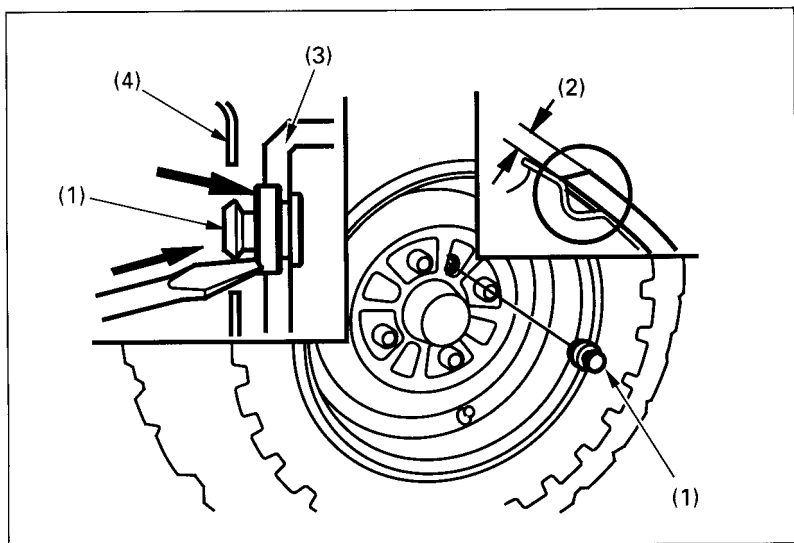
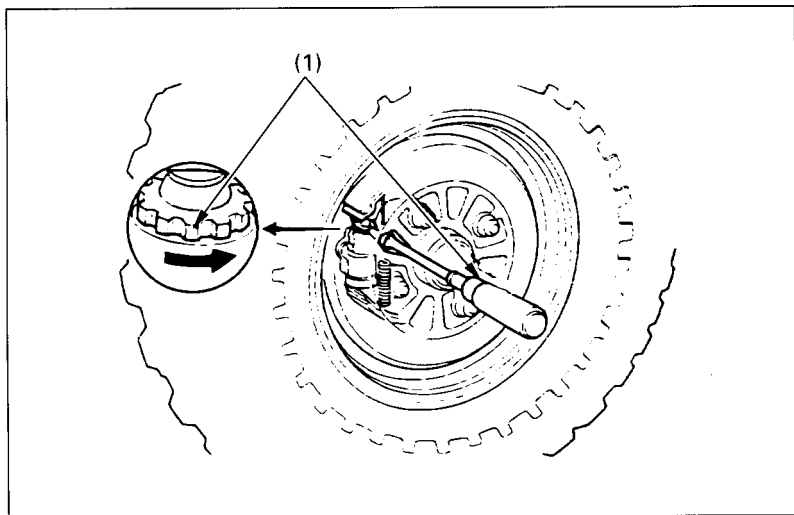

Fig. 4-24 (1) Inspection hole plug
Fig. 4-25
(1) Front brake lever
2. Remove the inspection hole plug (Fig. 4-24) and measure the lining thickness (2) on both front wheels.
3. If the brake lever free play and the brake shoe lining thicknesses are within the recommended limits, reinstall the inspection hole plugs, seating them into the inspection holes as shown in Fig. 4-24.
3. Beginning with either the left or right front wheel, remove the inspection hole plug (Fig. 4-24) and line up the hole with one of the brake adjusters (Fig. 4-25).
4. Using a screwdriver, turn the brake shoe adjuster (1) in the direction of the arrow until the front brake locks.
(1) Brake adjusters
7. Reinstall the inspection hole plug, seating it into the inspection hole as shown in Fig. 4-24.